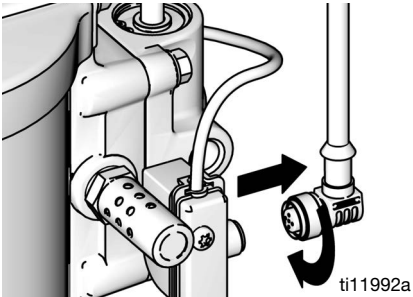

FIG. 9. Disconnect DataTrak
1. Unscrew cable from the back of the reed switch assembly. See FIG. 9.